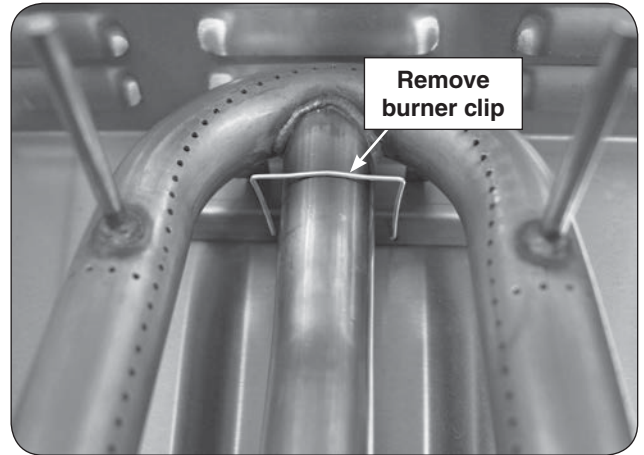

Fig. 33-1 Main burner removal
2. Locate the burner clip (located over the rear center tube of the burner) and slightly pinch and remove the clip from the burner support. See Fig. 33-1.